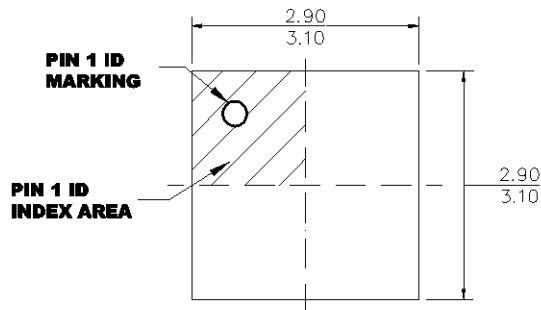

**Figure 13: Typical Application Circuit for 1 - 20VOUT**
- 9) The recommended layout is based on the typical application circuit in Figure 13.